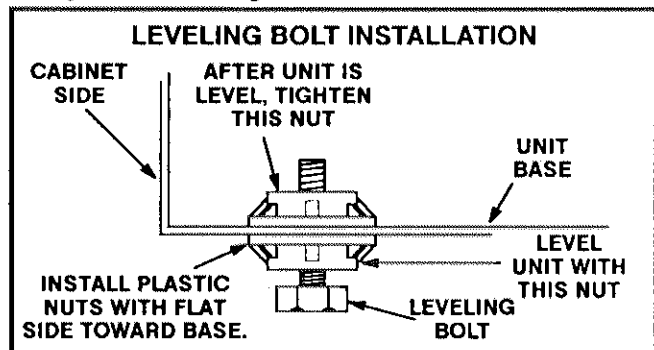

FIGURE 1
- Holes are provided in the corners of unit base for leveling unit. Install leveling bolts (if desired as shown, or shim under unit. See figure 1.